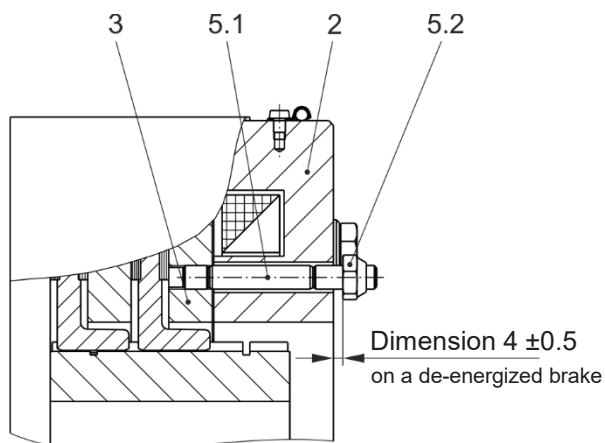

Fig. 6
Before putting the elevator or the system into repeat operation start-up, the distance between both hexagon nuts (5.2) and the coil carrier (2) must be re-adjusted to 4 ± 0.5 mm (on a de-energized brake), as described on Fig. 6.